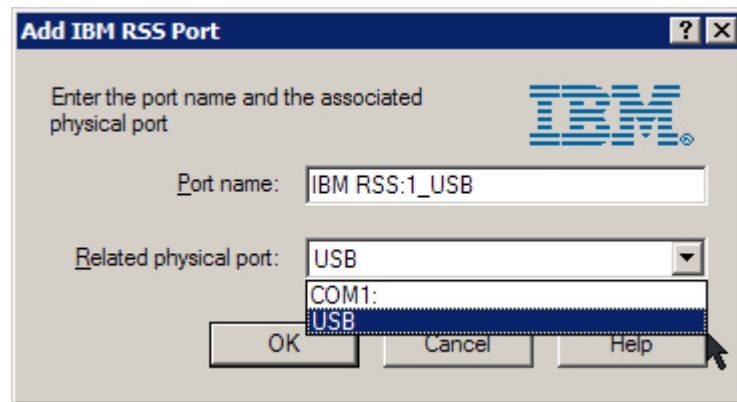

Figure 9. Adding a new port
6. Click **New RSS Port**. The Add IBM RSS Port window opens (see Figure 9 on page 9).
7. From the Related physical port list, select **USB** (see Figure 9).
8. Specify the port name that you want to use; then click **OK** (see Figure 9).